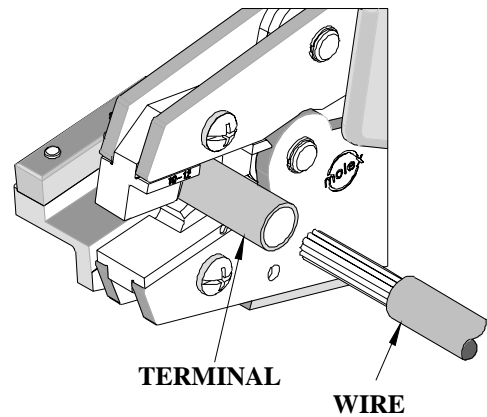

Figure 2
3. Partially close the tool to hold the terminal in place. See Figure 2.
4. Insert the properly stripped wire into the terminal barrel. See Figure 2 and 3. The wire's end should butt against the wire stop stamped into each terminal for the female terminal. Cycle the tool.